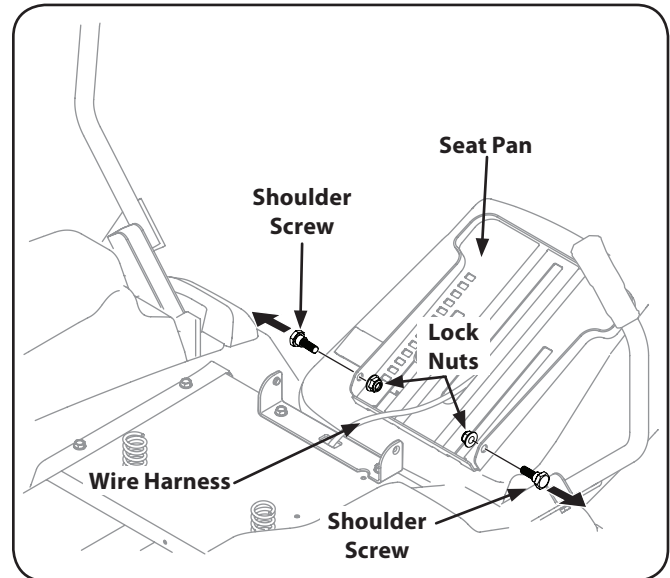

Figure 3-2
- Remove the two shoulder screws and lock nuts in the seat pan as shown in Figure 3-2.